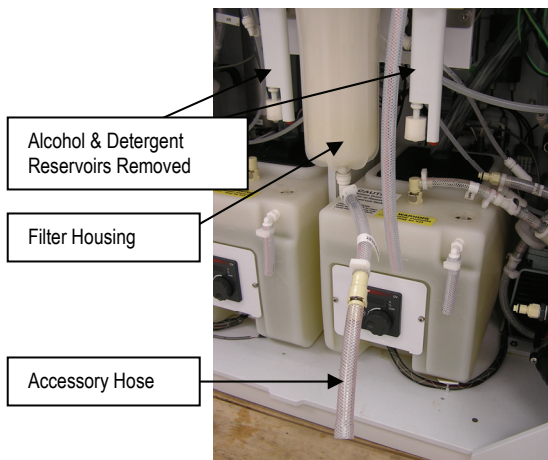

Fig 2
4. Connect the accessory hose to the water inlet tube. Refer to Figure 2.
7. Unscrew the internal water filter canister housing using the filter wrench supplied with the DSD-201, and remove in order to expose the water filter. Refer to Figure 2.